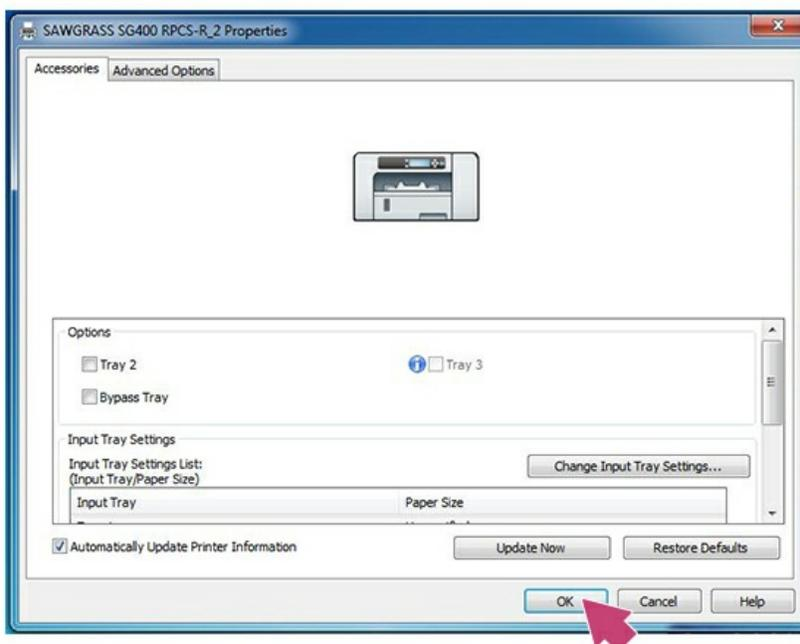

FIGURE 17
17. If you have options installed on the printer be sure to select the ones that are applicable. Click **OK** to continue. See Figure 17.